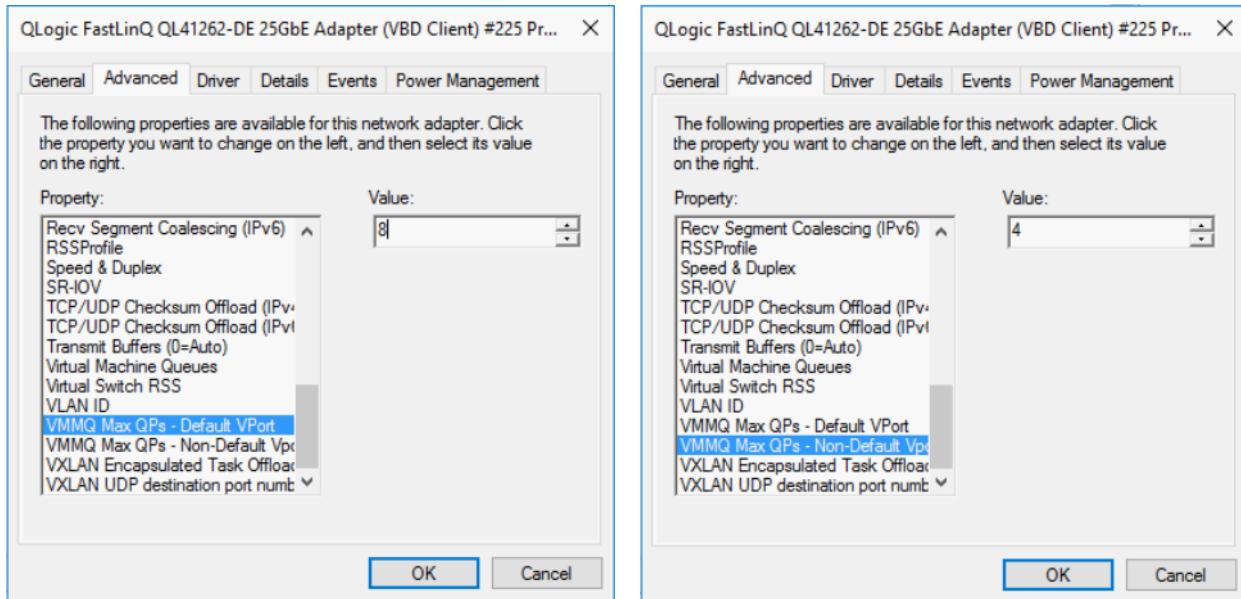

Figure 13-14. Advanced Properties: Setting VMMQ
2. On the Advanced Properties page (Figure 13-14) under **Property**, select one of the following: